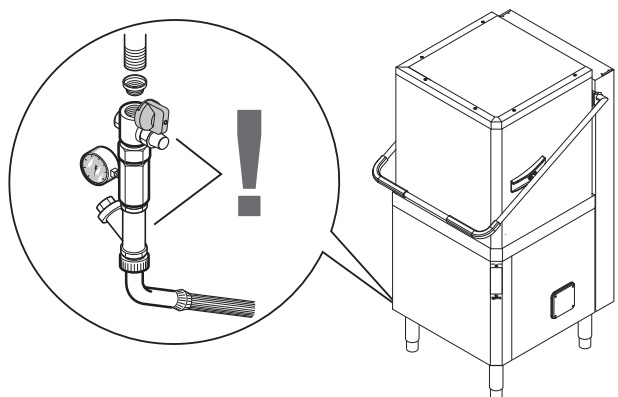

Figure 10 Feed pipe connection
- Connect the appliance water supply pipe “WI” (see paragraph E6.2 Installation diagram) to the mains, fitting a cut-off valve, the filter provided and a pressure gauge between the appliance and the mains (Figure 10).